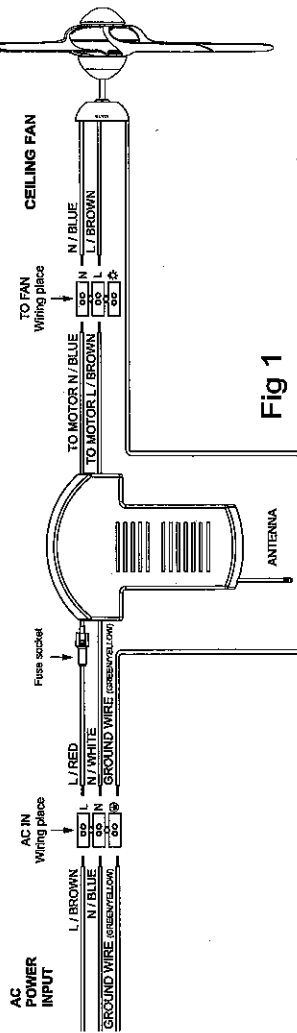

Fig 1
1. A typical ceiling fan remote control is wired as shown in this wiring diagram. (Fig. 1) Make sure that the wire of brown/blue/orange is connected.